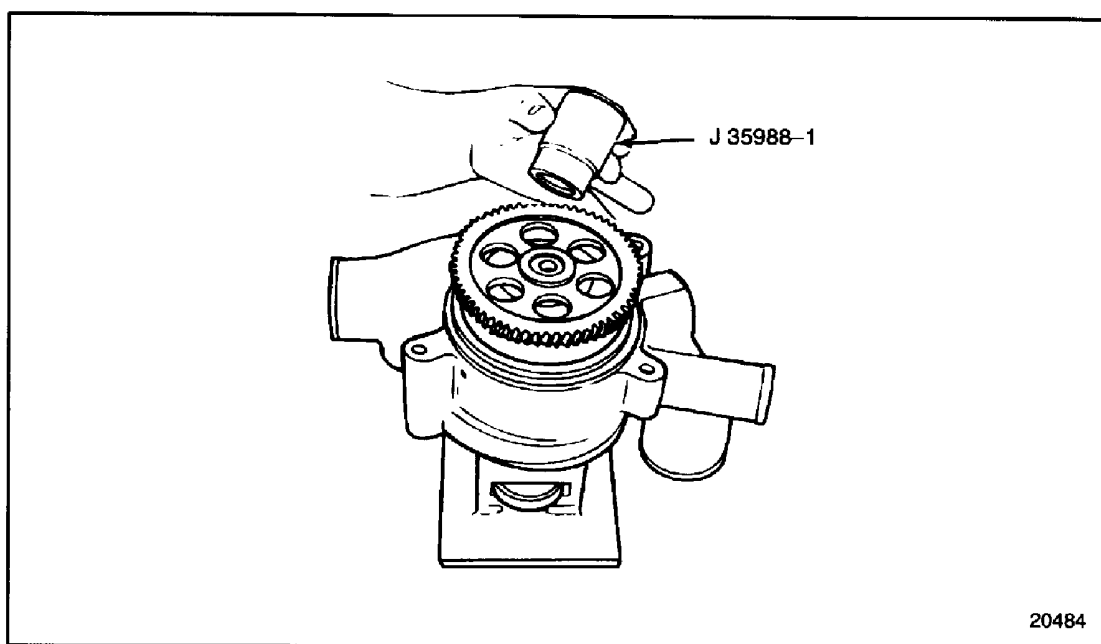

Figure 4-29 Water Pump Drive Gear Installation
23. Using the small end of tool J 35988-1 part of J 35988-B, part of tool set J 35988-B, press the drive gear down onto the drive shaft until it touches the bearings. See Figure 4-29.